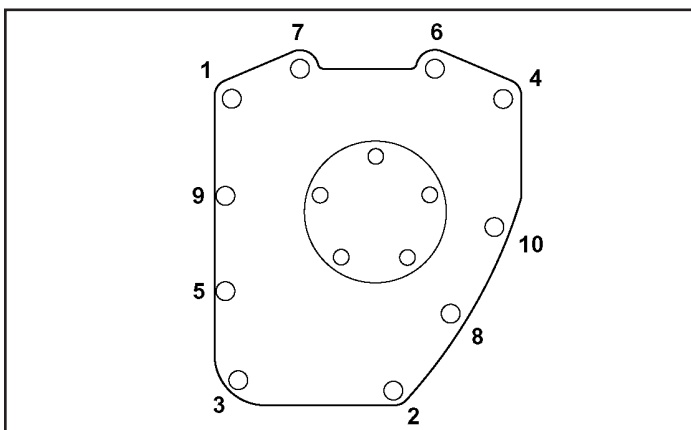

Figure 9
33. Use a new gasket and install cam cover. Tighten cover bolts to 100 in-lbs. in the sequence shown in **Figure 9**.